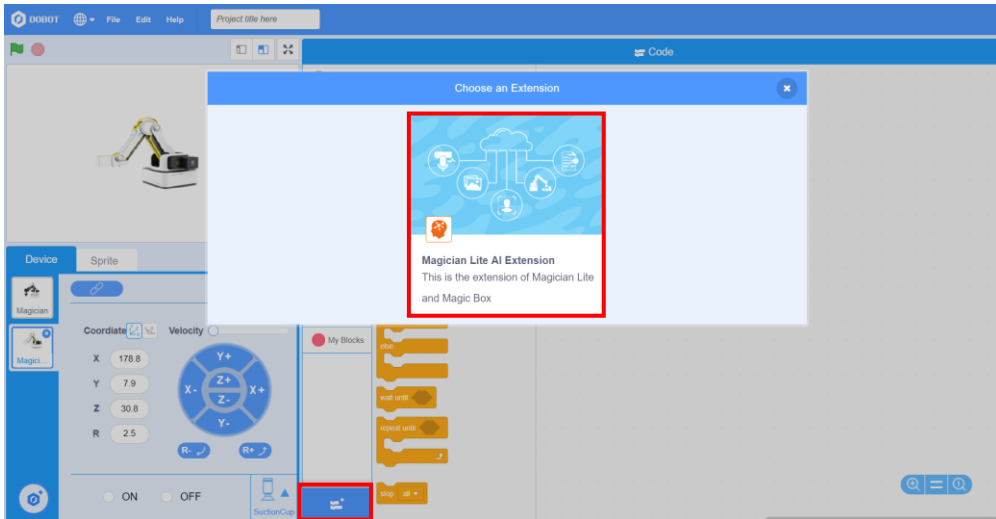

Figure 4.1 Adding the AI Extension module
Step 3: Click the Add Extension button to add the AI module, as shown Figure 4.1.